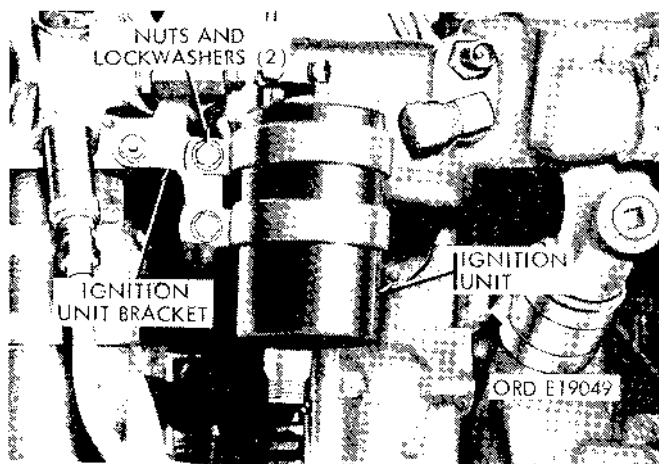

Figure 2-107. Removing ignition unit.
(Fig. 2-107.)
(1) Disconnect the power supply lead and ignition lead from the ignition unit (fig. 2-107).
(2) Remove the two nuts and lockwashers securing the ignition unit to the ignition unit bracket, and remove the ignition unit (fig. 2-107).